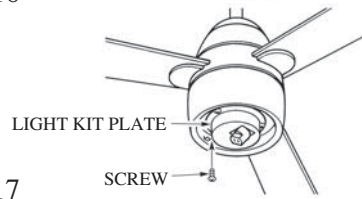

FIG.17
3. Install the light kit plate using the 3 loosen screws (see Fig.17)